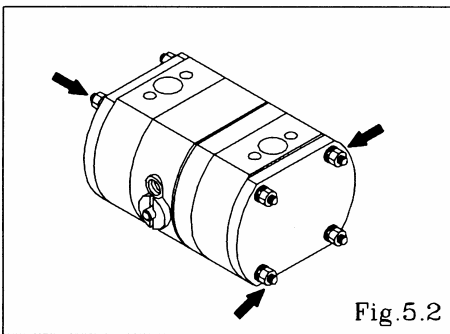

Fig.5.2
- Remove the 8 retainer nuts from the both sides of orizontal tie rods, and remove the reinforcement plate and out chamber.[Fig.5.2]